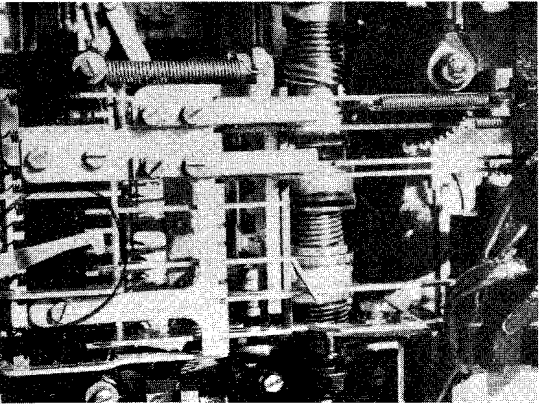

Figure 1. Photo showing the function bar comb and also (circled) the downshift-on-space lever.
The easiest of these to fix is the first, as nearly all model 15 and 19 machines have a lever on the under side of the printer that gives "downshift on space". Many commercial and military circuits do not use this most desirable feature for reasons certainly known only to them. Perhaps if we ran 10 Kw. transmitters to rhombic antennas and changed bands when the going got the slightest bit rough we could dispense with it also. At any rate, you probably already have the lever on your machine, it's on the bottom side -- lift the printer unit off the base and you will soon see it. Directly on the bottom of the machine is the function bar "comb" which is visible in Figure 1, about the middle of this comb on the forward edge is the lever that swings a little left and right. It is a little over two inches long, and is tightened with a screwdriver. Loosen it and swing it out of the way, then tighten again. That's all there is to it. That gives you automatic "downshift on space".
be staring you directly in the face. Figure 1 is an actual photo showing this function bar comb. The comb is held in place by three hex-headed screws. Before removing these make a careful mental note of what it holds in place and where. Best yet, draw yourself a picture. The photo will help in reassembly. This part is the only tough part in the entire modification. You cannot be too careful in taking notes on that function bar comb. Now remove the comb. You will see the various function bars. The one second from the left (slot 2) is the "carriage return" function bar, and it is better identified (when once removed) as it has a number "2" stamped on it. To remove this function bar, first disconnect its spring. It may then be possible to work it free of the bail assembly, but that's too hard of a job, as you will want to put it back into the empty "tab slot" (slot 6) anyway, in order to suppress spacing when a "CR" function is received.
the bearing will come out and then the roller bar may be pulled out. It's an easy job and so much harder to explain than to accomplish. Now that the roller bar is out of the way, it is simple to pull out the "CR" function bar from slot 2, then place it in the empty "tab slot" (6). Look back where the springs attach for the function bars, and there will only be one empty spring hole. That is where the "CR" function bar goes. Hook up the spring. You are now done in this section, so put the roller bar back in place, then reinstall the "function lever comb". If you have not taken careful notes of what was in which slot of the function comb, you may swear a few times in the process. Again, the photo of Figure 1 may help a little. You may wish you had three or four hands instead of two, but it's not really too hard a job and just takes a little patience to jockey everything into position -- it takes no particular talent, just a little time. It's surely well worth the effort, however.